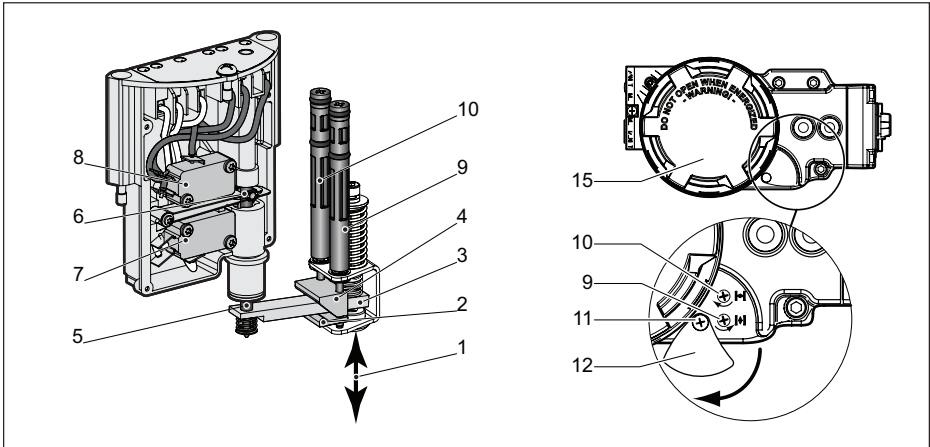

Fig. 5.2 Working principles Switch Operating Mechanism
The QC40 ASI Control Module is equipped with non-intrusive switch point adjustment. The adjustment screws are accessible behind a shield in the front of the module (see fig 5.2).
- In this case the top adjustment screw (see fig. 5.2), sets the switch point of the “Closed” position and bottom adjustment screw sets the switch point of the “Open” position.
5.1.5 Working principles Switch Operating Mechanism (see fig 5.2)